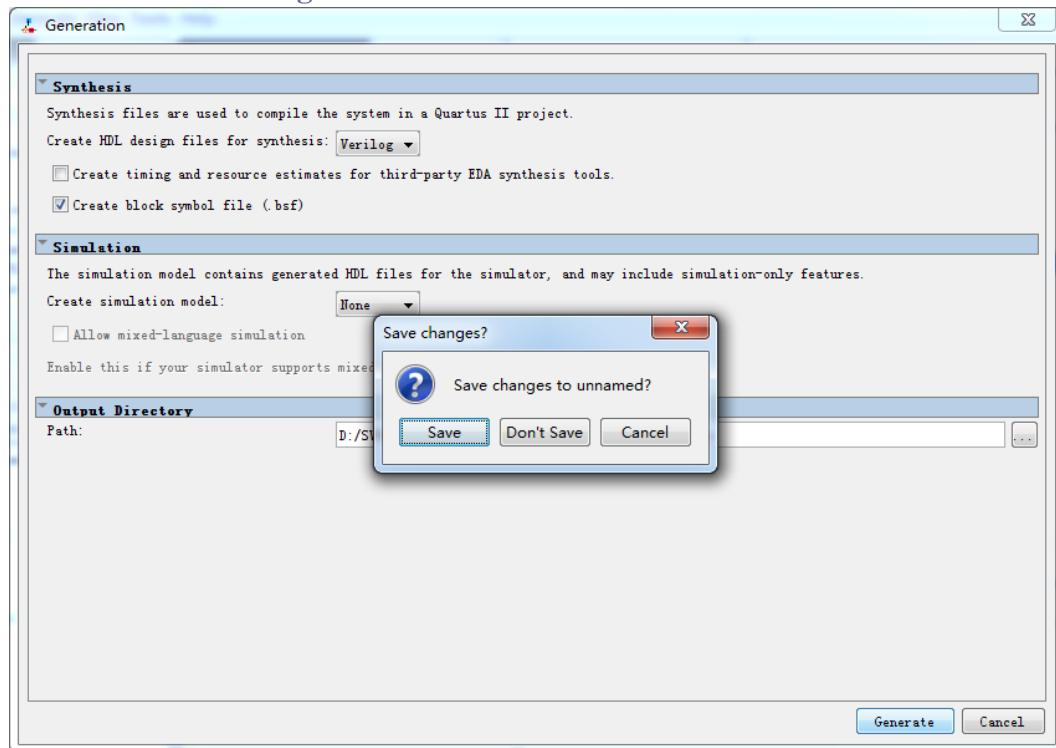
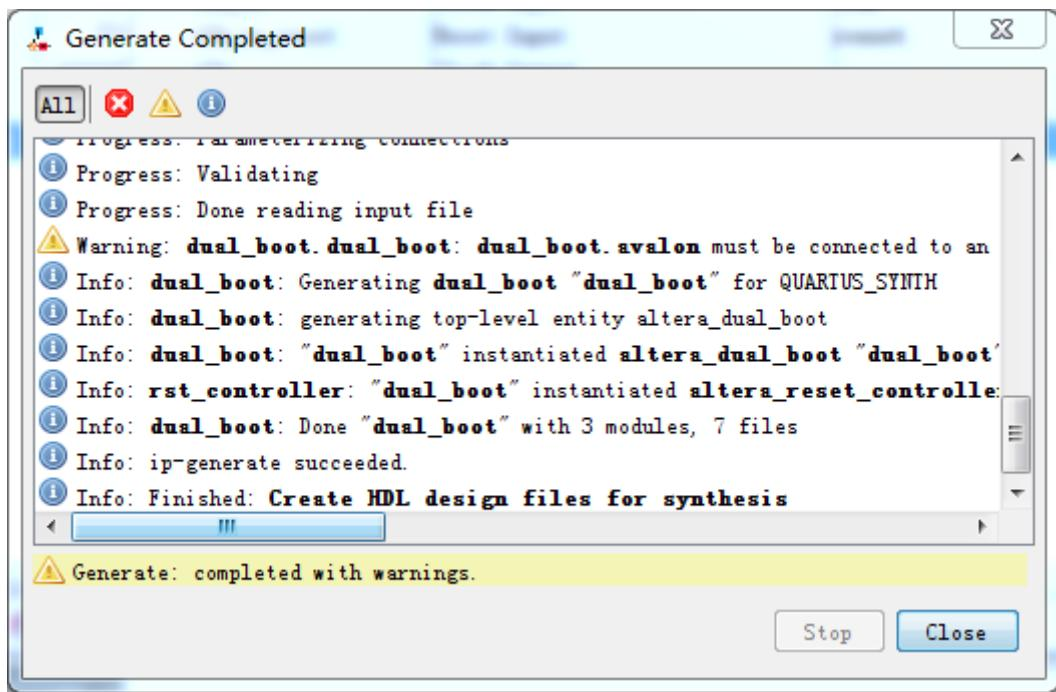

Figure 8-8 Generate and save Qsys
Figure 8-9 Generate Qsys Completely
5. Click **Generate tab** and click **Generate** then pop a window as shown in **Figure 8-8**. Click **Save** it as dual_boot.qsys and the generation start. If there is no error in the generation, the window will show successful as shown in **Figure 8-9**.